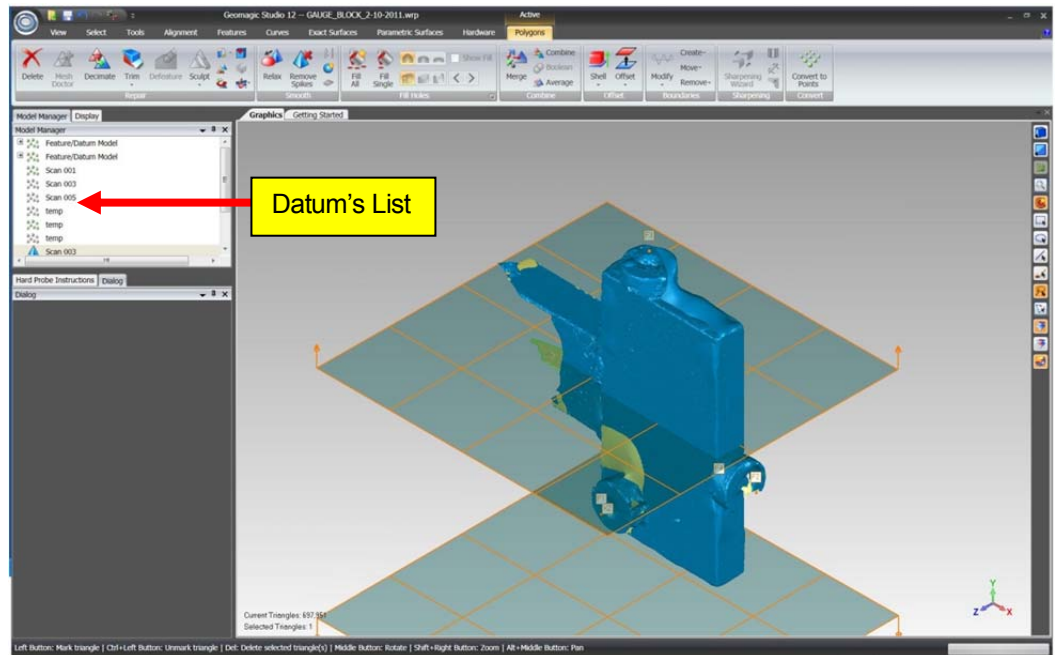
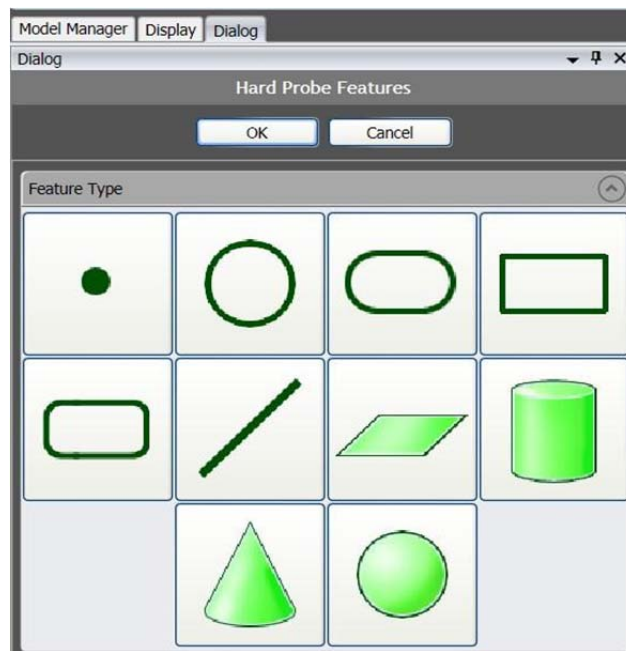

Figure 6. GeoMagic Modeling Window
Figure 7. Plane Measurement Icon
Power on the ScanArm by flipping a switch on the base of the arm assembly. Start the alignment laptop on the desk, start GeoMagic Studio 12 by clicking the shortcut on the desktop. The Faro ScanArm, in a laboratory setting, will need about 15 minutes to warm up for stabilization. The ScanArm initializes each encoder by the user physically rotating each joint (Figure 6).
2. Define as many datums (planes, lines, points) as needed to define a coordinate system that is convenient (Figure 6). *A datum can be measured directly or constructed from measured datums.* Click > Ball Probe Icon > Plane icon (row 2, column 3 of Figure 7) > With ScanArm capture points on desired plane, minimum of 3 points, press the green button on the Scan Arm to capture a point and the red button when the desired number of points on the plane are completed.